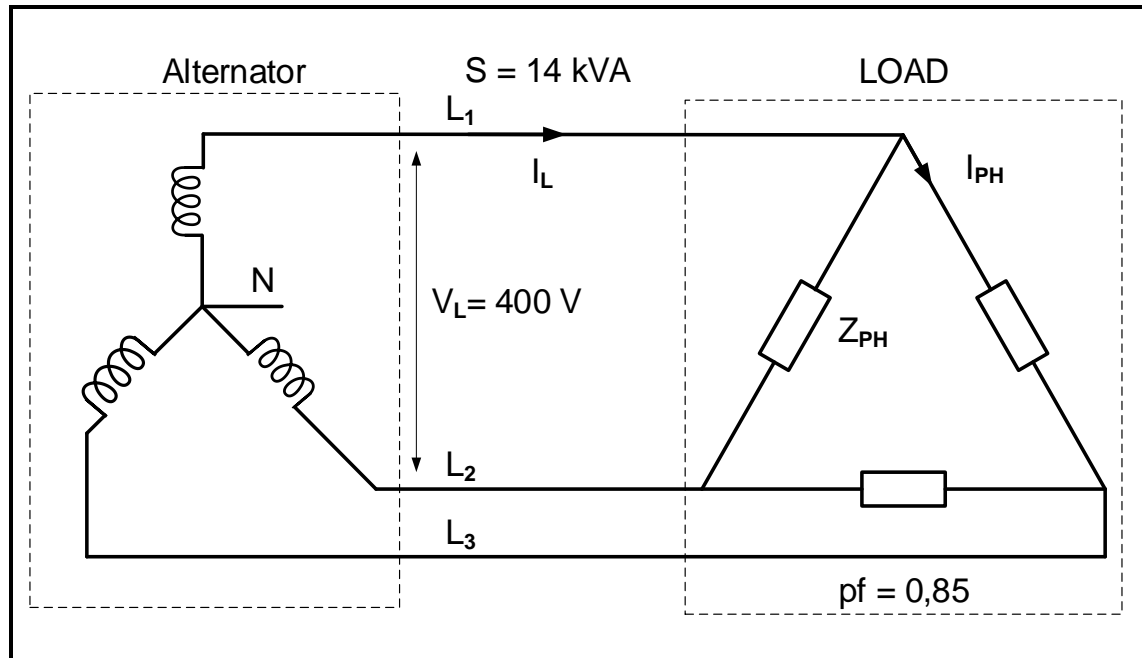

FIGURE 4.4: THREE-PHASE SYSTEM
- 4.4 FIGURE 4.4 below shows a balanced three-phase load powered by a three-phase alternator. The alternator provides a line voltage of 400 V to the load with a power factor of 0,85. The apparent power of the system is 14 kVA. Answer the questions that follow.